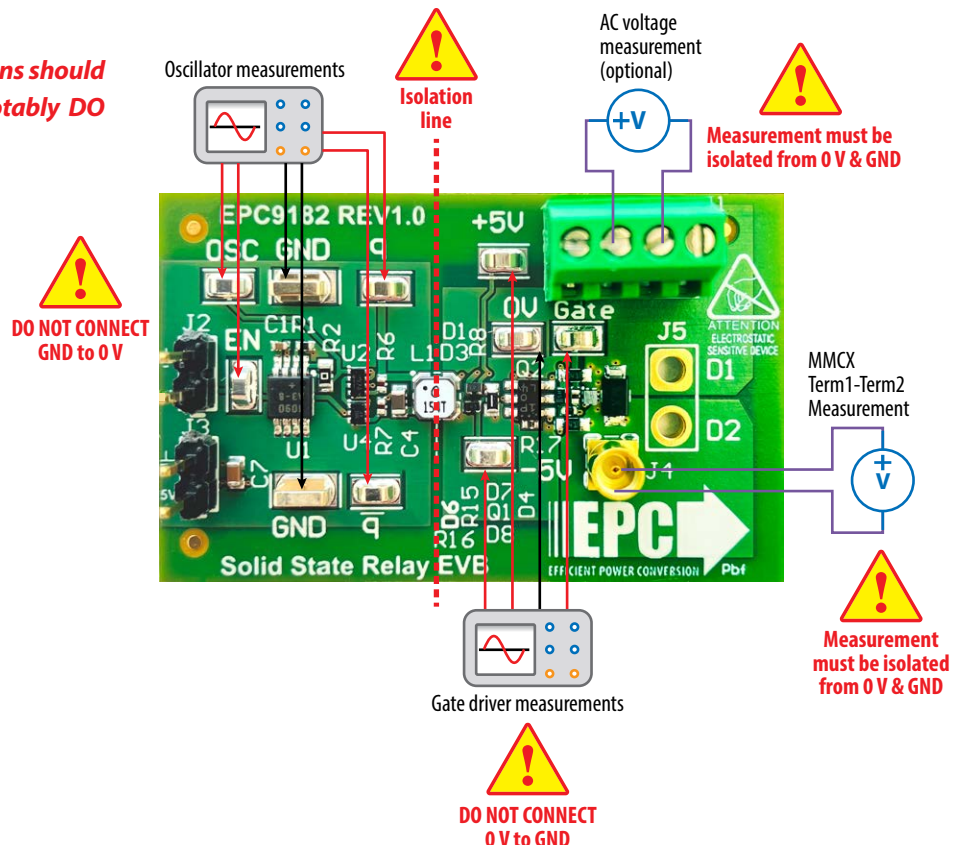

Figure 8: EPC9182 test point pad and hookup locations and designations
Figure 8 shows the various measurement connections of the EPC9182 demonstration board.
It is important to note that certain connections should not be made as highlighted in figure 8. Notably DO NOT connect GND to 0 V.
7. Take various measurements on the board as needed paying careful attention not to connect GND to 0 V as shown in figure 8.